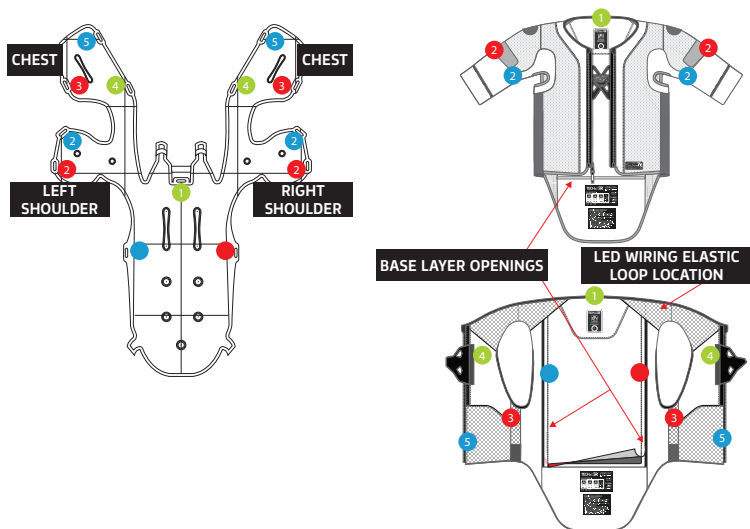

Figure 14: Connection clip locations on the Airbag (left) and on the System's Base Layer (1) (right)
1. Detach the Airbag. Access the Airbag through the Internal Openings (7) shown in Figure 6 and proceed to open all the connection clips arranged as shown in Figure 14. Each clip has a color and number to assist the User in proper assembly. The System has a total of 11 Connection Clips: 2 clips on the left shoulder area (#2 blue - #2 red), 2 clips on the right shoulder area (#2 blue - #2 red) area, 3 clips on the left side of the chest area (#3 red - #4 green - #5 blue), 3 clips on the right side of the chest area (#3 red - #4 green - #5 blue) and 3 clips for the back area (#1 green - # blue - # red). It is suggested that the User detach the clips beginning with the clips located on the back area, then detach the clips on the chest area and, finally, detach the clips on the shoulder area (see Figure 14).
1. Attach the Airbag. Insert the Airbag back into the Base Layer (1) by passing it through the opening present inside the Back Protector (5) and guiding it gently through the opening. Now place the Gas Inflators Housing (13) inside the Airbag Control Unit (6). Turn the System so the Back Protector (5) is facing downwards. Insert each protective area of the Airbag into the corresponding pockets located on the back, the shoulders, and the chest, being sure to use all the openings present on the Base Layer (1) as shown in Figure 6. Be sure to avoid twisting or folding of all sections of the Airbag. Attach the Airbag to the Base Layer (1) by reconnecting 10 of the 11 Connection Clips shown in Figure 14, except for the one Connection Clip (#1 green) that is located in the upper back area.
1. Insert the Electronic Components. Once the Airbag has been repositioned, position the Airbag with the Back Protector (5) facing upwards so you can now insert the electronic components and their wiring through the opening present inside the Back Protector (5). With the System positioned with the Front Flap (3) facing upwards, access the inner area of the vest and the wiring in the upper back area. Place the peripheral sensors back in their holders in their Velcro pockets, making sure to match the color of the sensor with the color indicated on the label, and close the Velcro securely. Finally, reposition the LED Display (2) by first passing it carefully through the elastic loop located in the left shoulder area, as indicated in Figure 14, and then pass the wiring down through the left chest area to the opening near the Front Flap (3). Finally, insert the LED Display (2) inside the Front Flap (3) and close the Velcro securely. Close the last Airbag Connection Clip (#1 green) in the upper back area and check that the Airbag is well positioned and without ANY folds or twisted parts. You can do this check by gently moving your hand across all sections of the Airbag. Also be sure to check that ALL wiring is not tightly pulled in any location. Now, make sure to close all the internal openings as indicated in Figure 6.
2. Close the Airbag Control Unit and Check the System. Turn the System with the Back Protector (5) facing upwards. Check that the Gas Inflators Housing (13) is securely attached and that all components are properly in place. Now you may reinsert the Cover (12) and make sure it is securely closed. Finally, verify that the System is fully functional by closing the System's Front Flap (3) and checking the LED sequence reported in Section 13.